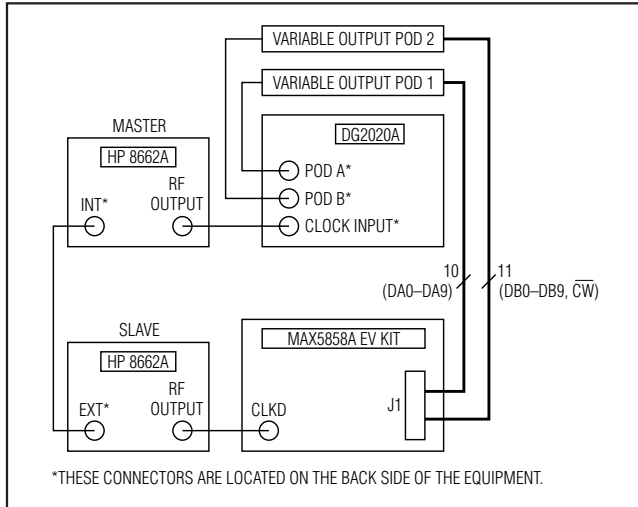

Figure 1. Quick Start Setup for PLL Disabled Mode
**Caution: Do not turn on power supplies or enable signal generators until all connections are completed (Figure 1).**
the data generator (Sony/Tektronix DG2020A). (See Figure 1 for the equipment setup connections.)